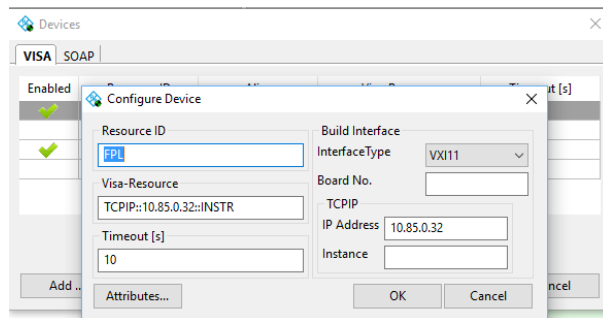

Fig. 4-2: Instrument connection configuration on FORUM
- | Configure the T&M instruments as shown in Fig. 4-2